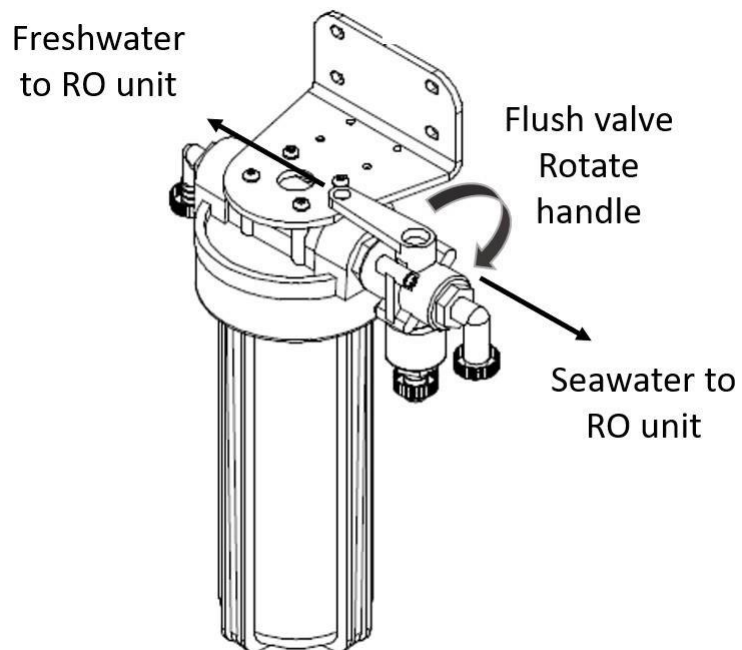

Figure 2.1: Fresh Flush Valve
- 5) Turn the gray Fresh Water Flush Valve to Fresh Water Flush. See figure 2.1: Fresh Flush Valve.